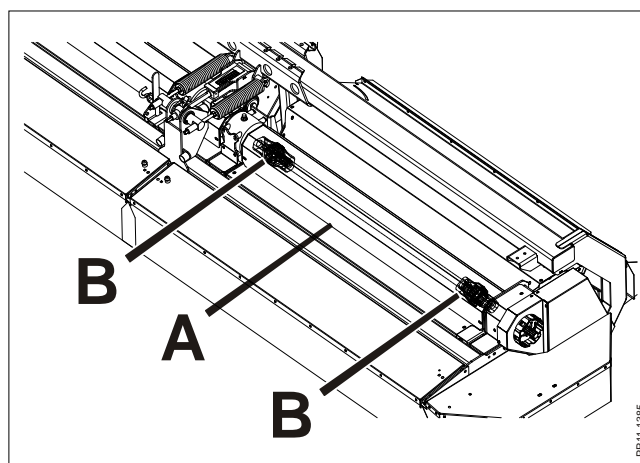

Fig. 4-8
**Fig. 4-8** The guard **A** must be dismantled in order to grease the universal joints **B**. There are 4 universal joints per cutting unit. The universal joints must be greased with a 250 hour interval.